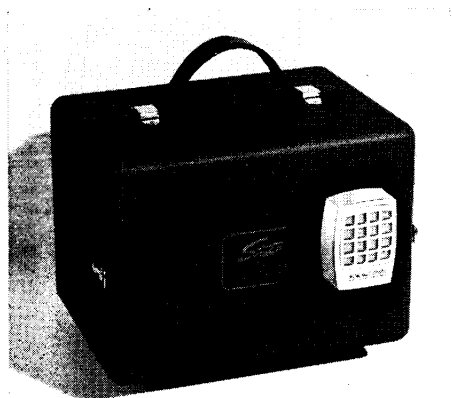

Figure 1—Cutaway showing complete Strobotuner and microphone packed for carrying.
**General**—The complete Strobotuner consists of a single encased unit with a fully-detachable cover, firmly held in place by a latch on either side, and a microphone. When packed for carrying, the Strobotuner is entirely self-contained. See figure 1. The permanently-attached,